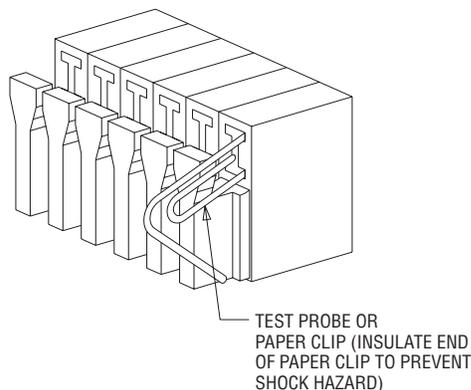

Figure 5-1: Fuse Alarm Test
1. Insert a paper clip or equivalent as shown in Figure 5-1 to connect the battery lead of the fuse to the alarm lead of the fuse in F1 (see Figure 2-4). Insulate the part of the paper clip in contact with the hand. The MNF (Minor Fuse Alarm) LED on the controller front panel should light, and the NORM LED should go out. With a multimeter, verify that the following office alarms are present on the appropriate terminal blocks on the 113B: